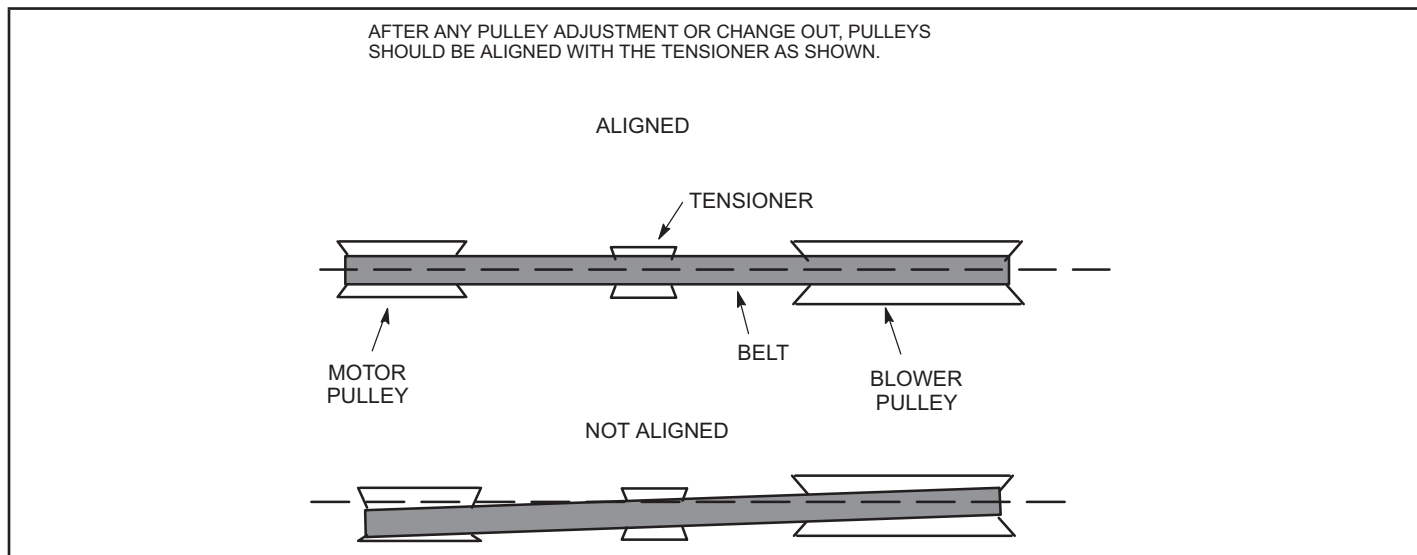

FIGURE 17. Typical Pulley Alignment
To save energy during ventilation, the blower speed can be set to low. This is accomplished by changing the ventilation speed switch on the VFD control board to "LO". See figure 17.
To maintain required minimum ventilation air volumes when the unit is in the occupied mode, two minimum damper positions must be set. A high and a low speed potentiometer are provided on the VFD control board to adjust minimum damper position. See figure 17.
- 5 - Check the power LED on the board. See figure 17.
- 8 - When LVC2 24VAC thermostat blower (G) input and 24VDC power are present, check the LVC2 low and high speed outputs. The LVC2 uses inverse logic to enable the blower; 1VDC will be read at the enabled blower speed terminal. See table 3.